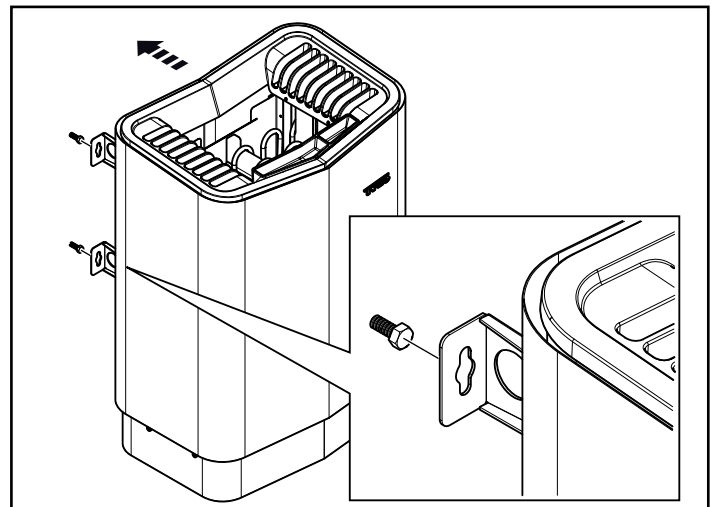

Figure 13: Hang the heater up.
11. Hang the heater on the screws see Fig. 13.